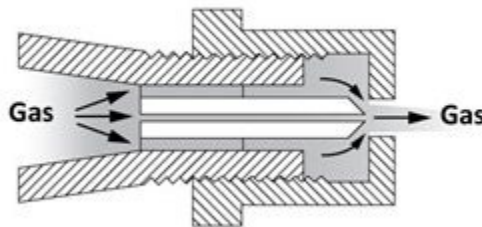

Figure 4 Cap orifice setup for natural gas
- Figure 4 “Atmospheric burner parts” by Camosun College is licensed under a CC BY 4.0 licence.
For natural gas use, having a lower heat value, a greater flow rate is required so the orifice cap or hood is unthreaded (counter-clockwise) away from the needle. This allows the gas to also flow both through around the needle opening and around the opening between the shoulder and the edge of the orifice in the hood (Figure 4). For the most part the opening size in the hood becomes the fixed orifice for the required natural gas flow rate, but some flow rate adjustment is available by fine tuning the amount of gas that can squeeze through the area between the needle shoulder and the edge of the cap hole.